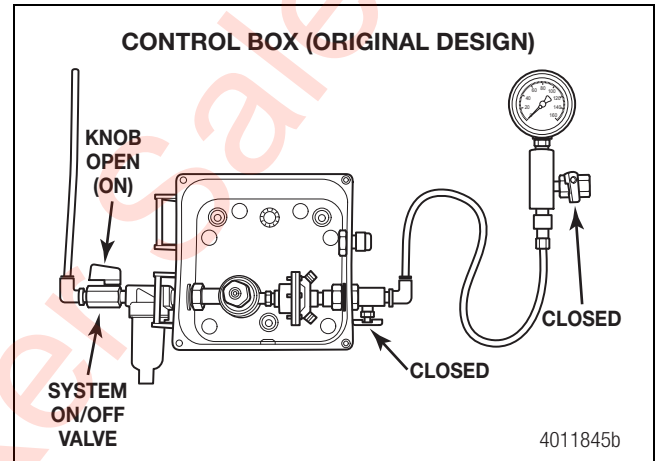
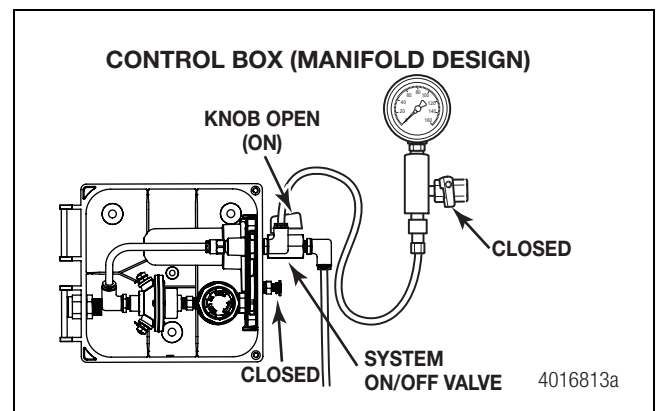

Figure 3.15
Figure 3.16
5. Turn the supply line ball valve to the ON position. This allows air to charge the control box system. Figure 3.15 and Figure 3.16.